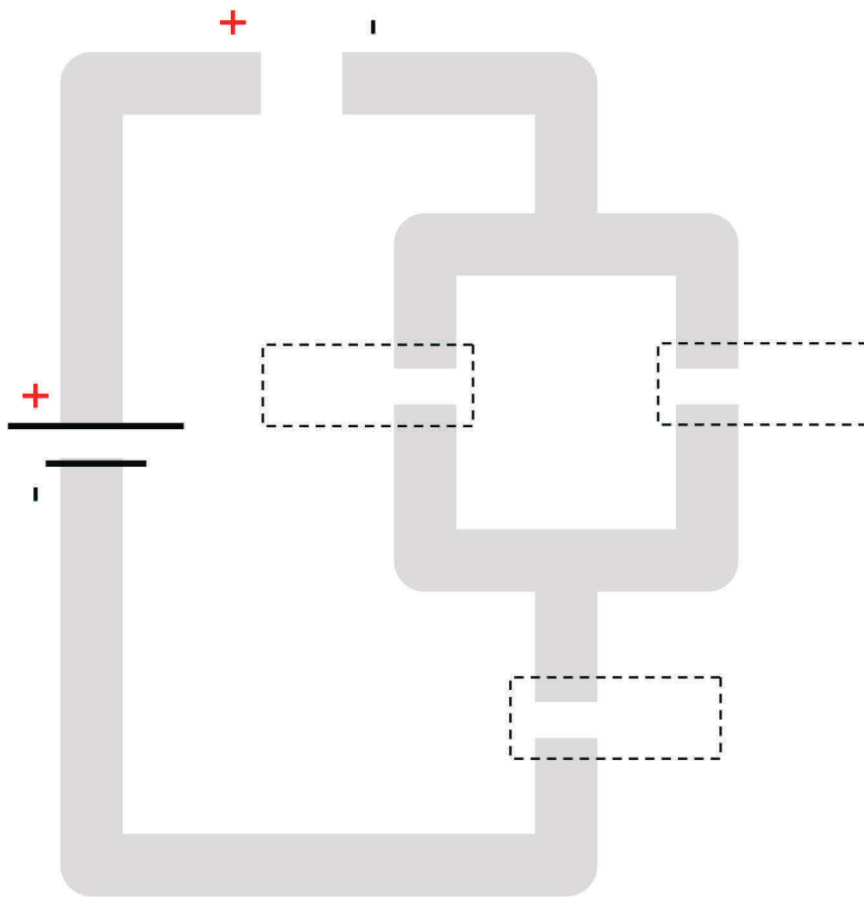

Figure 10: "Logic circuit" template
- Draw a heavy line over the light gray line on the template copy (see figure 10) with an 8B pencil.